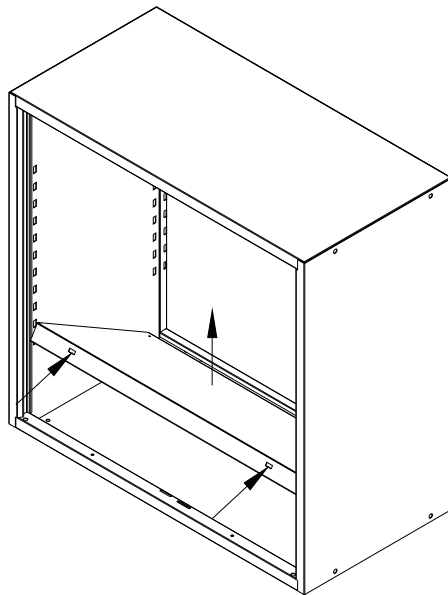

Figure 2 - Bottom Shelf Removal
1. Insert (1) one Flathead Screwdriver or equivalent into each of the rectangular cutouts in the front of the Bottom Shelf
2. Lift upwards enough so that the Shelf is above the bottom cover of the Cabinet as shown in Figure 2.